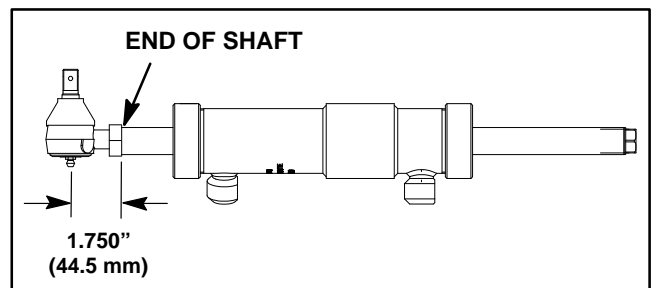

Figure 12
5. Jack up machine so all four (4) wheels are off the ground. Support raised machine with appropriate jack stands.
6. Make sure that the steering cylinder rod ends (both front and rear) are properly installed. The distance from the end of the cylinder shaft to the center of the rod end grease fitting should be 1.750" (44.5 mm) (Fig. 12). If needed, loosen jam nut and adjust location of rod end. If adjustment is made, torque jam nut from **83 to 101 ft-lb (113 to 136 N-m)**.